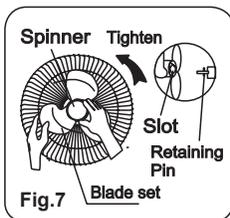

Fig.7
2. Mount the Blade set onto the motor shaft through the center hole in the Blade set. Insert the retaining pin on the motor shaft into the slots in the Blade set core. Insert the spinner onto the tip of the shaft and turn spinner counterclockwise to secure the Blade set in place. Fig. 7.